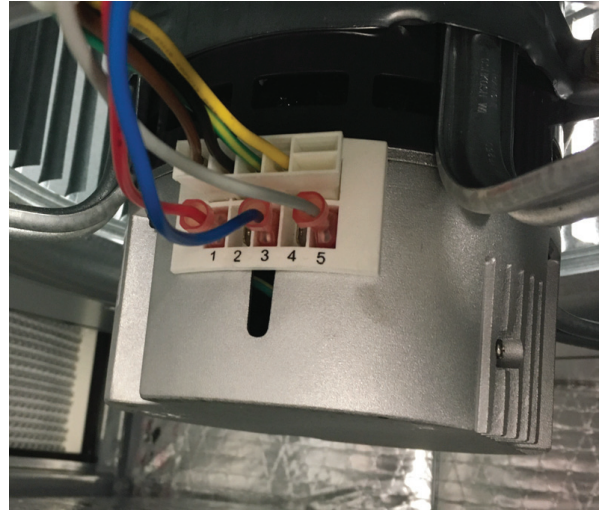

Fig. 8 – Motor Taps
5. Locate the three blower speed tap wires (red, blue, and gray) attached to the blower motor (Fig. 8).